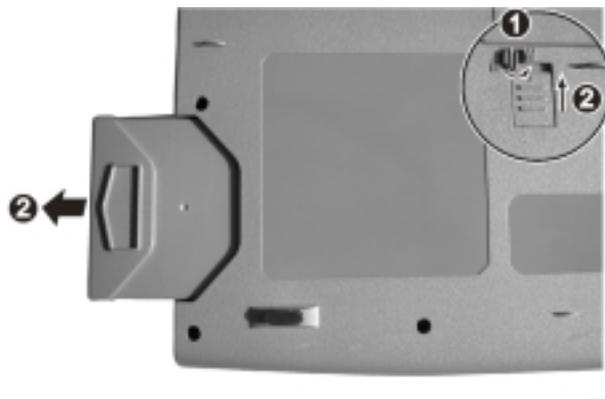

Figure 5-1
2. Turn the locking button to the "unlock" (🔓) position (❶), then slide and hold the latch in the unlock position and pull the battery pack out of the compartment (❷).(figure 5-1)